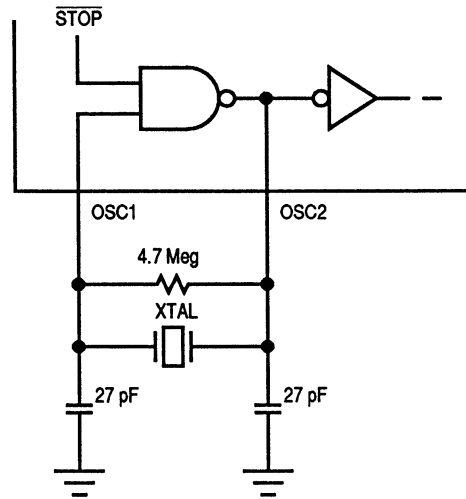

Figure 2-2. Crystal/Ceramic Resonator Connections
- A crystal (see Figure 2-2)
- A ceramic resonator (see Figure 2-2)
The circuit in Figure 2-2 shows a typical crystal oscillator circuit for an AT-cut, parallel resonant crystal. The crystal supplier's recommendations should be followed, since the crystal parameters determine the external component values required to provide maximum stability and reliable start-up. The load capacitance values used in the oscillator circuit design should include all stray layout capacitances. The crystal and components should be mounted as close as possible to the input pins to minimize output distortion and start-up stabilization time.
A ceramic resonator can be used in place of the crystal in cost-sensitive applications. The circuit in Figure 2-2 can be used for a ceramic resonator. The resonator manufacturer's recommendations should be followed, since the resonator parameters determine the external component values required to provide maximum stability and reliable starting. The load capacitance values used in the oscillator circuit design should include all stray layout capacitances.